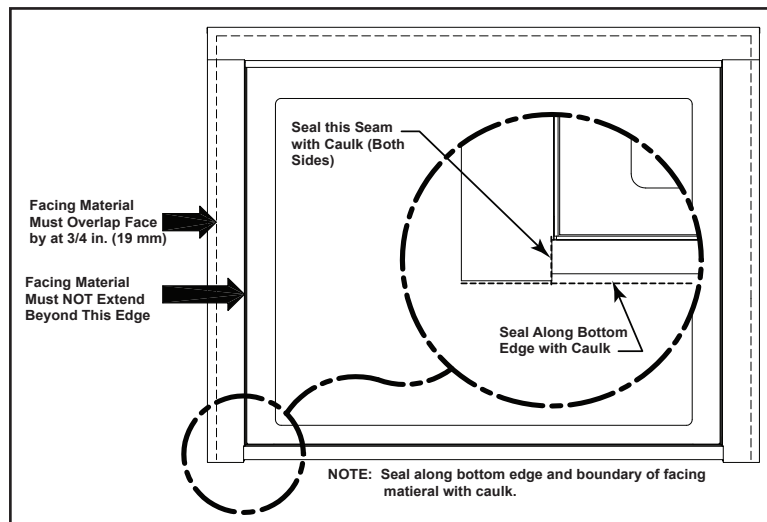

Figure 10.3
3. Install facing material to overlap the face of the fireplace by at least 3/4 in. (19 mm), apply high temp weather adhesive sealant between the face of the fireplace and the facing material to ensure the fireplace is sealed from the weather outside following the parameters in Figure 10.3.
6. Install facing material to overlap the fireplace by at least 3/4 in. (19 mm), apply high temp weather adhesive sealant around the perimeter of the facing material and the fireplace. Also seal along the bottom edge of the fireplace. See Figure 10.3